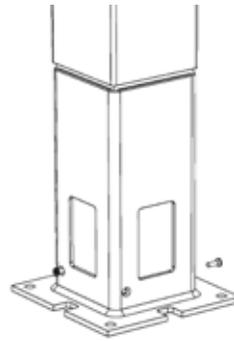

Figure 5
8. If necessary, place a shim under the mount to make the post plumb and true. To secure wood insert to surface mount bracket, use two #8 x 1 inch flat head screws (not included) (Figure 5).
9. If necessary, place a shim under the mount to make the post plumb and true. To secure wood insert to surface mount bracket, use two #8 x 1 inch flat head screws (not included) (Figure 5).